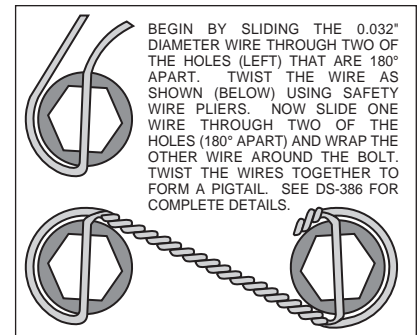

Figure 4. Safety Wire Diagram
•With the larger I.D. side of the rotor (5) facing away from the hat (6), bolt rotor (5) to hat (6) through the backside of the rotor using washers (7) and bolts (8). Torque bolts (8) to **85 in-lb**. Safety wire bolts (8) using standard 0.032 inch diameter stainless steel safety wire as shown in Figure 4. Please refer to Wilwood's data sheet DS-386 (available at www.wilwood.com/Pdf/DataSheets/ds386.pdf) for complete safety wire installation instructions. Slide the rotor/hat assembly onto the hub. Install a couple of lug nuts (finger tighten) to keep the rotor/hat assembly in place while continuing with the installation.